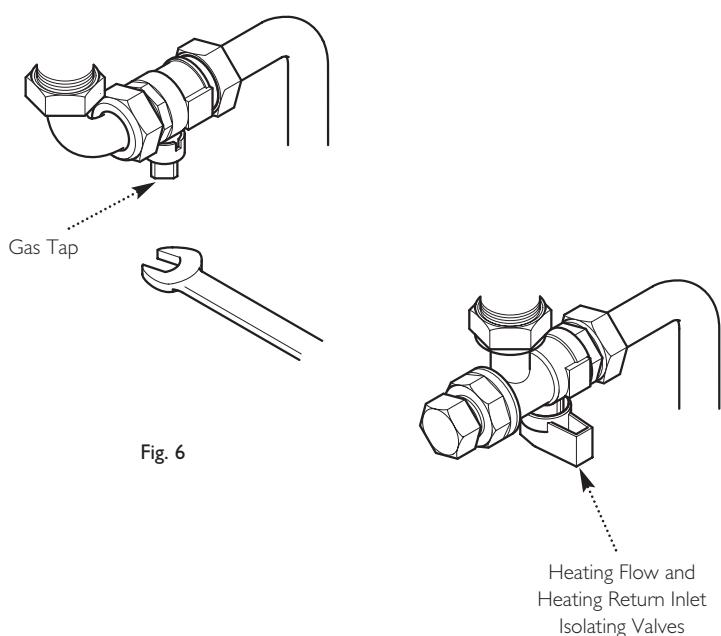

Fig. 6
Turn off the gas supply at the meter and call your gas supplier immediately. It is possible to isolate the boiler and at the isolating valve (Fig. 6).
1. Using a suitable open ended spanner, turn the square nut on the gas tap through 90° ($1/4$ turn) to isolate the gas supply at the boiler (Fig. 6).
2. The water isolating valves are positioned under the boiler and can be closed by turning their taps to the right towards the wall (Fig. 6).